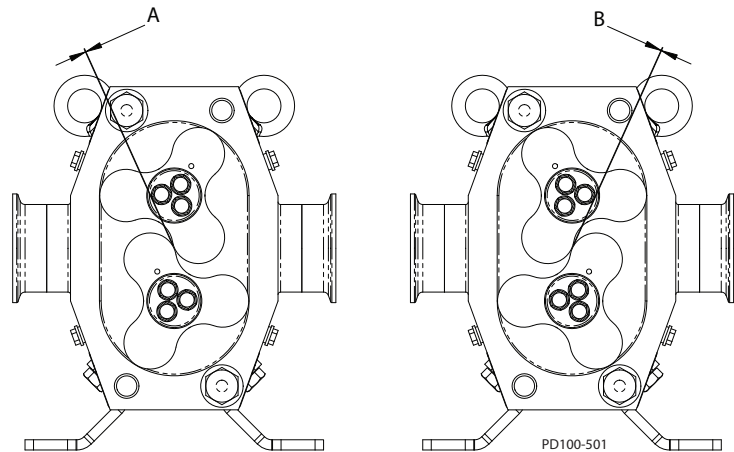

Figure 63 - Rotor Clearance
10. Check the rotor-to-rotor clearance at the positions shown in Figure 63.
11. The “A” and “B” clearance dimensions shown in Figure 63 must be within the ranges specified in Table 11 at all positions. Adjust the gear position on the drive shaft as required.